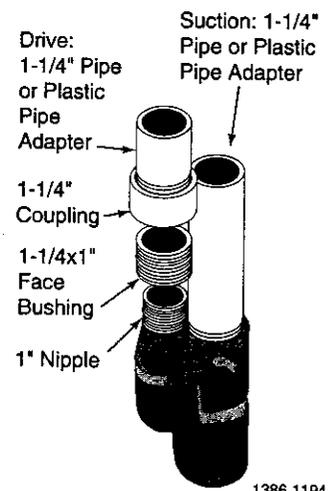

Figure 8 – Jet Assembly With 1" and 1-1/4" Drive Pipes
Use 1-1/4" pipe for both suction and drive pipes. A 1" nipple, a 1-1/4"x1" facing bushing, and a 1-1/4" coupling are included in the jet package. These must be used with the jet. (See Figure 8, Page 6, for installation details.)
6. Thread a 1" plastic pipe adapter or a 1" nipple into the 1" tapped hole in ejector body (see Figure 8).